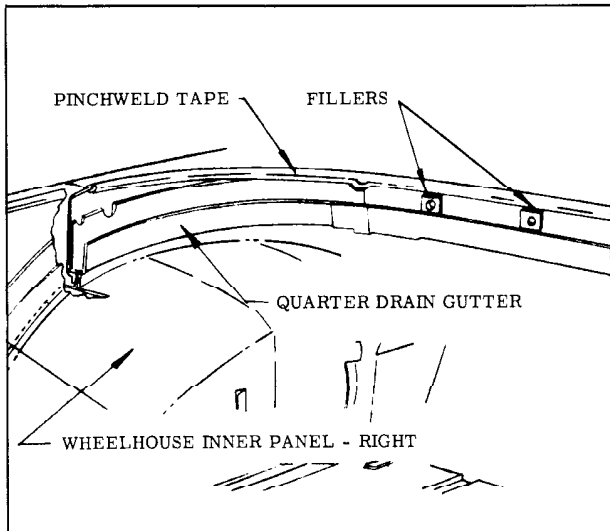

Fig. 17-136 Checking Trim Stick Fillers
14. Inspect rubber trim stick fillers cemented to body below pinchweld. (Fig. 17-136) Re-cement if necessary.